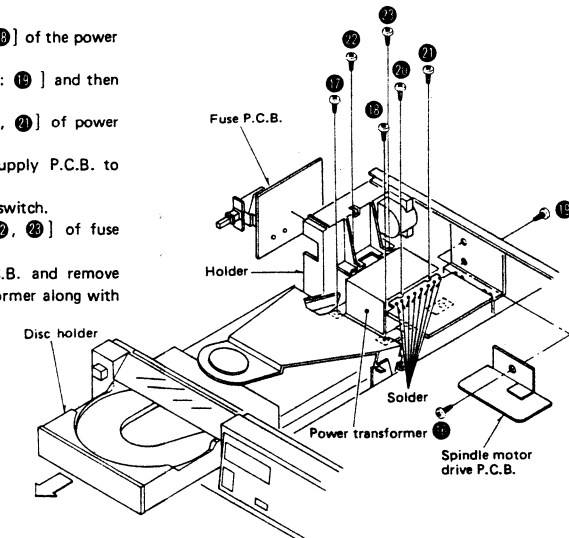

Fig. 7
2. Pull out the disc holder in the direction of the arrow [Fig. 7].
3. Remove the setscrew [Fig. 7 : ⑯] of the spindle motor drive P.C.B.
4. Remove the 2 setscrews [Fig. 7 : ⑰ ~ ⑱] of the power transformer.
5. Remove the radiator setscrew [Fig. 7 : ⑲] and then remove the transformer block.
6. Remove the 2 setscrews [Fig. 7 : ⑳, ㉑] of power supply P.C.B.
9. Remove the 2 setscrews [Fig. 7 : ㉒, ㉓] of fuse P.C.B. holder.